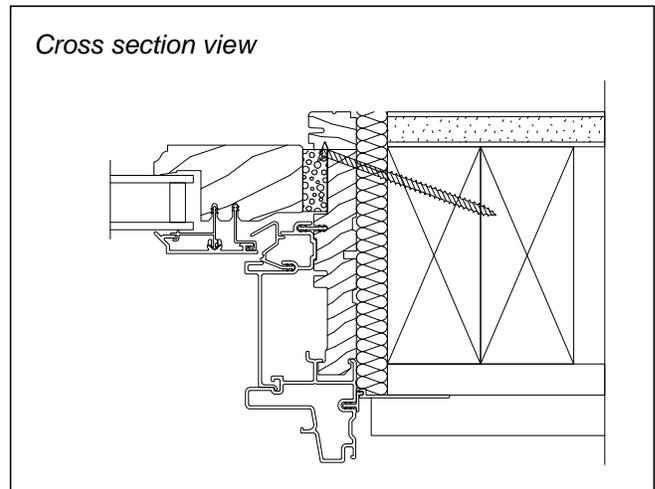

Figure 8
- Sash installed in frame:** Remove jamb stops. Fasten frame to the rough opening using #8 X 3" screws angled through frame of unit, 6" (152) from corners and a maximum of 13" (330) on center from there. See figure 8.